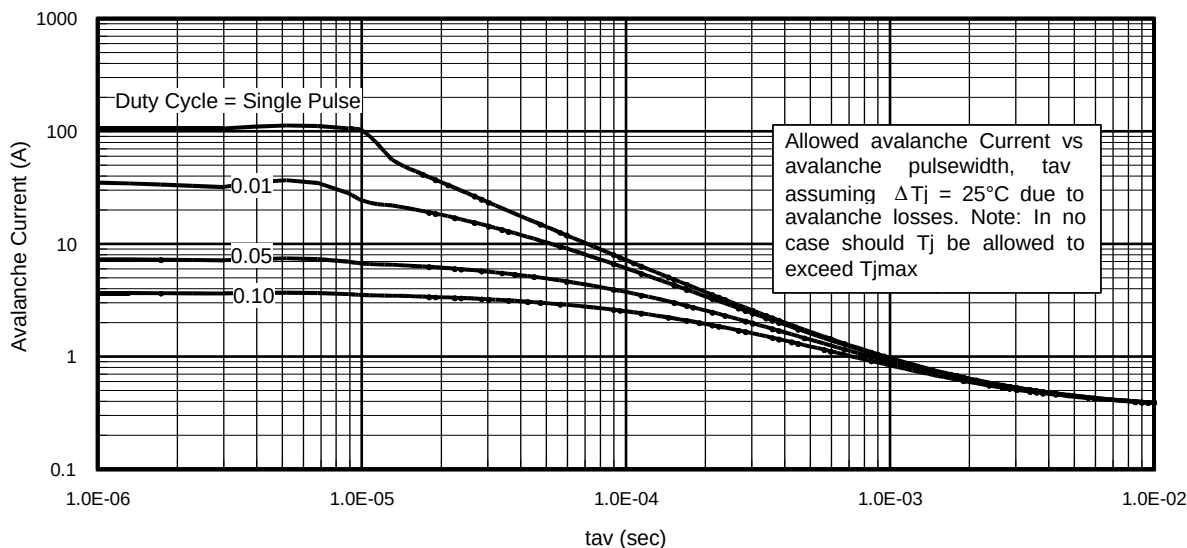

Fig 14. Typical Avalanche Current Vs. Pulsewidth
Notes on Repetitive Avalanche Curves , Figures 14, 15:
7. ΔT = Allowable rise in junction temperature, not to exceed T_{Jmax} (assumed as 25°C in Figure 14, 15).
- ① Repetitive rating; pulse width limited by max. junction temperature.
- ② Starting $T_J = 25^\circ\text{C}$, $L = 0.93\text{mH}$, $R_G = 25\Omega$, $I_{AS} = 19\text{A}$.
- ③ Pulse width $\leq 400\mu\text{s}$; duty cycle $\leq 2\%$.
- ④ This only applies for I-Pak, L_S of D-Pak is measured between lead and center of die contact
- ⑤ R_θ is measured at T_J of approximately 90°C .
- ⑥ Contact factory for mounting information
- ⑦ Limited by T_{jmax} . See Figs. 14, 15, 17a, 17b for repetitive avalanche information
- ⑧ When D-Pak mounted on 1" square PCB (FR-4 or G-10 Material). For recommended footprint and soldering techniques refer to application note #AN-994
- ⑨ Refer to D-Pak package for Part Marking, Tape and Reel information.